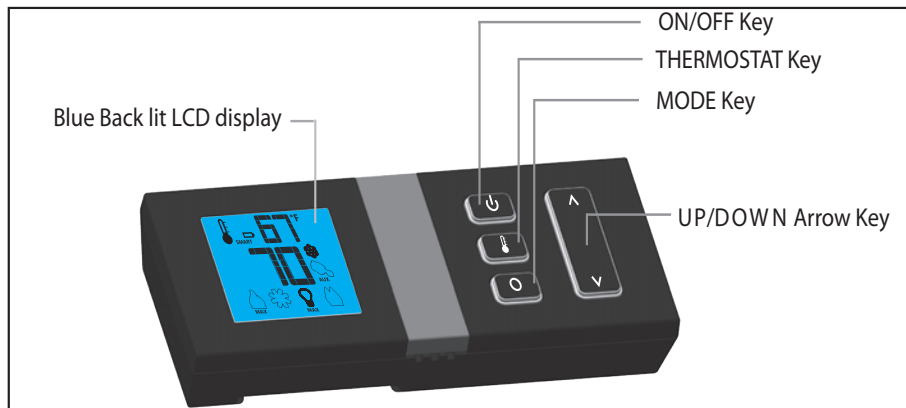
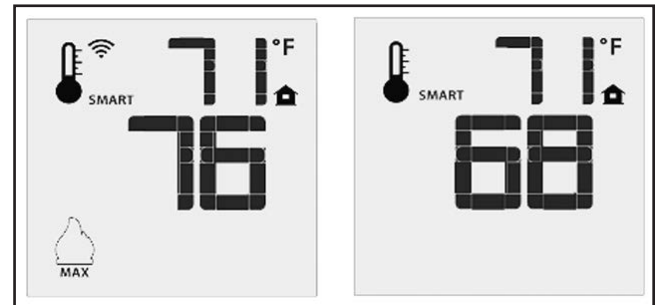
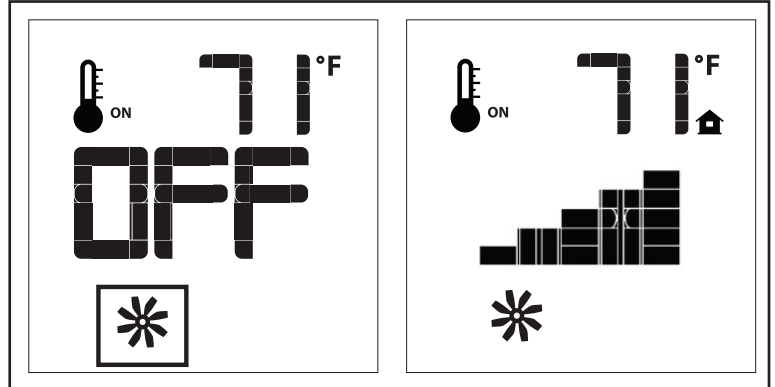
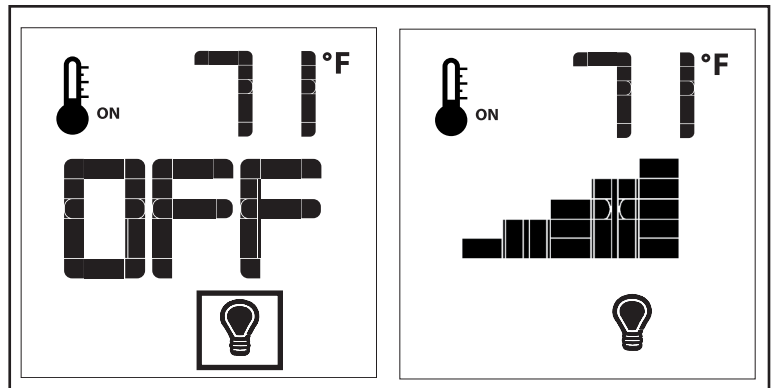

Figure 5: Proflame 2 Transmitter.
Figure 12: Remote Control's Smart Flame Function.
Figure 14: Fan Control
Figure 15: Bottom Light Control
The Proflame 2 Transmitter is a remote control with a blue backlit LCD display. It uses a streamline design with a simple button layout and informative LCD readout (Figure 5). The Transmitter is powered by three (3) AAA type batteries. A Mode Key is provided to Index between the features and a Thermostat Key is used to turn on/off or index through Thermostat functions (Figure 5 & 6).
The Remote Control can operate as a room thermostat. The thermostat can be set to a desired temperature to control the comfort level in a room. To activate this function, press the Thermostat Key (see Figure 5). The LCD display on the Transmitter will change to show that the room thermostat is “ON” and the set temperature is now displayed (see Figure 12). To adjust the set temperature, press the Up or Down Arrow Keys until the desired set temperature is displayed on the LCD screen of the Transmitter.
The Smart Thermostat function adjusts the flame height in accordance to the difference between the set point temperature and the actual room temperatures. As the room temperature gets closer to the set point the Smart Function will modulate the flame down. To activate this function, press the Thermostat Key (Figure 5) until the word “SMART” appears to the right of the temperature bulb graphic (Figure 12). To adjust the set temperature, press the Up or Down Arrow Keys until the desired set temperature is displayed on the LCD screen of the Transmitter.
The EX35 comes with a convection fan that can be controlled with the Transmitter. The fan speed can be adjusted through six (6) speeds. To control the fan press the MODE key (Figure 5) to index to the fan control icon (Figure 14). Use the UP/DOWN arrow keys to turn on, off, or adjust the fan speed (Figure 14). A single beep from the IFC will confirm the command has been received
The ember lights at the front of the fireplace can be controlled with the Transmitter. The lights can be adjusted through six (6) levels. To adjust the brightness of the lights press the MODE key (Figure 5) to index to the light control icon (Figure 15). Use the UP/DOWN arrow keys to turn on, off, or adjust the brightness (Figure 15). A single beep from the IFC will confirm the command has been received.
When the fireplace is turned off press the mode key to index to the constant pilot (CPI) mode icon (see figure 5). Pressing the up arrow key will select Continuous Pilot Ignition (CPI) and pressing the down arrow key will return to IPI. Once a selection is made the IFC will beep once to confirm it had received the command. **NOTE: It is recommended to use the continuous pilot mode during the winter when the outside temperature is below 50°F (10°C) to keep the chimney properly heated for updraft during burner ignition.** Continuous pilot mode also keeps the firebox warm which eliminates both heat loss to cold air that is trapped inside the firebox as well as excessive exhaust vapour condensation on the door glass.